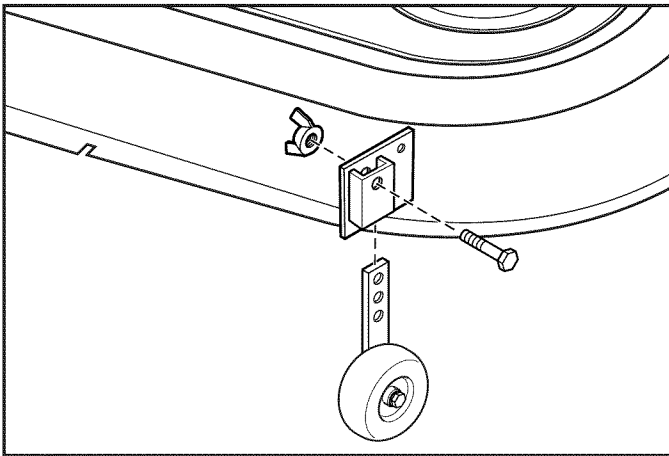

FIGURE 12
4. Adjust front and rear gauge wheels as needed (Figure 12).